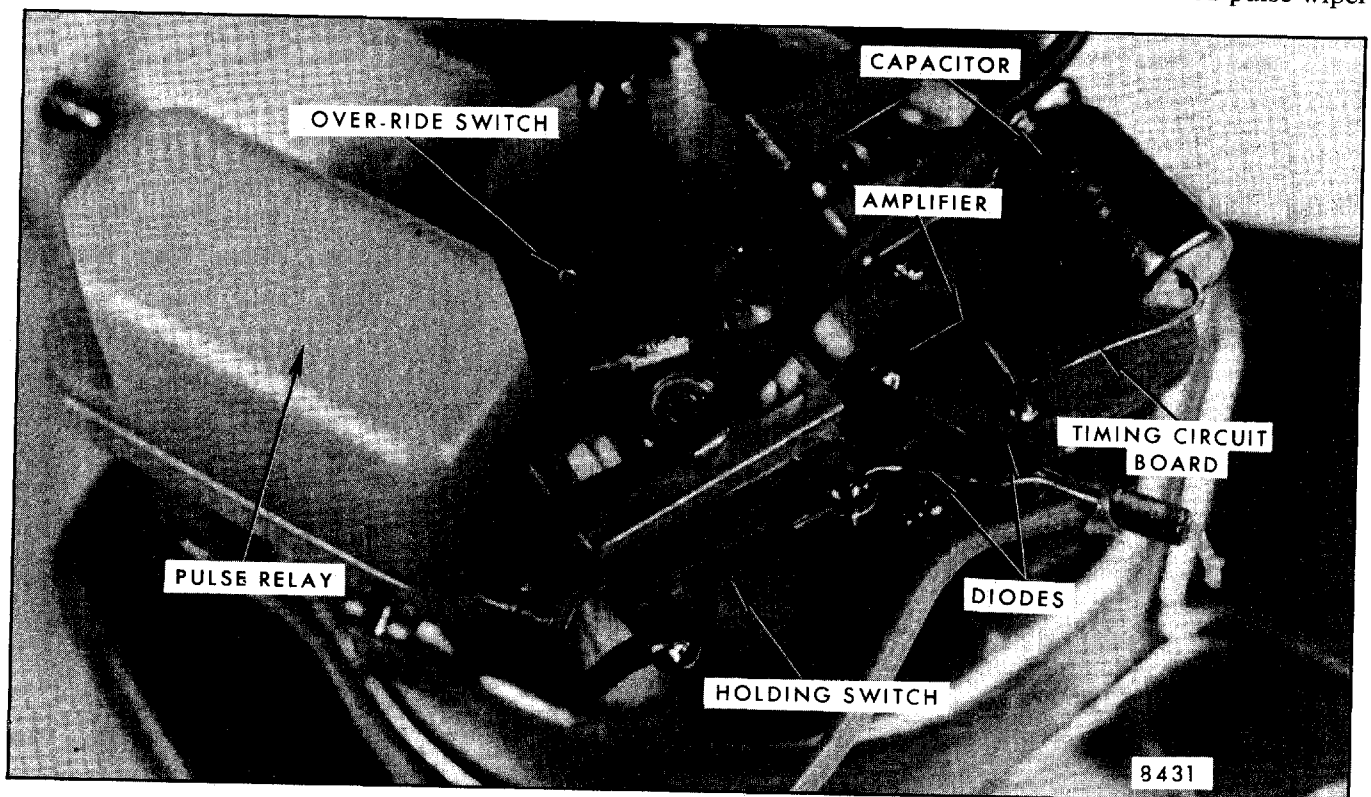

Fig. 2-133-Modified Pulse Washer Pump Timing Circuit
differs considerably from the pump used on a standard wiper. Referring to Figure 2-133 note the following components NOT found on a standard pump: (1) pulse relay, (2) override switch, (3)